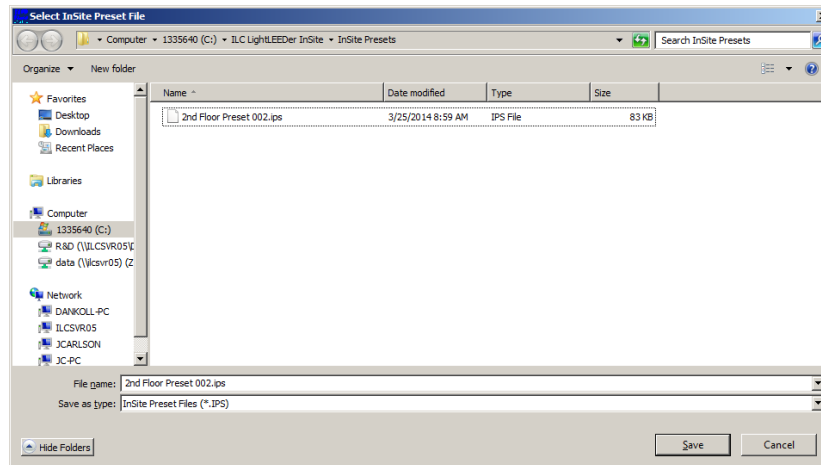

Figure 2.6 Saving an InSite Preset
3. Name the InSite preset in the window provided as shown in figure 2.6